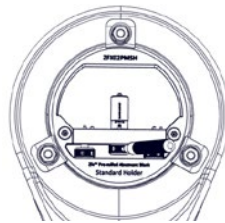

Figure 5.
- × Using the secure spanner tool, tighten the Pre-milled Abutment Blanks onto the blue screws until the blanks are fully seated (*Figure 5*).